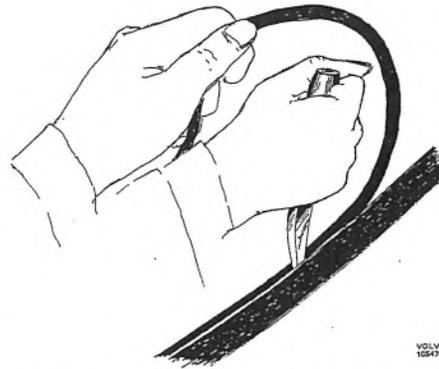

Fig. 8-39. Cutting windshield rubber stripping
3. Cut up the rubber stripping along the groove for the trim moulding and remove the cut rubber so that the windshield is uncovered there (Fig. 8-39).